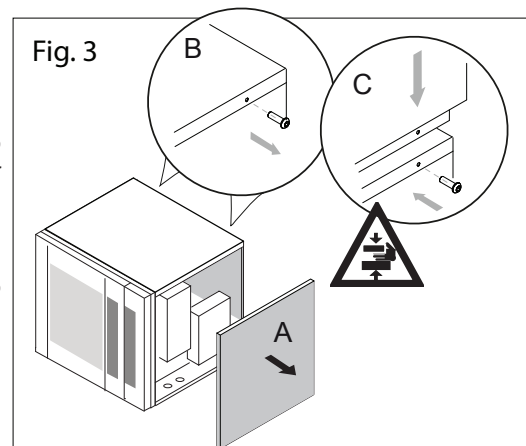

Fig. 3
Remove from the oven the lateral right panel and the two fixing screws of back side. (Fig. 3/A and 3/B).
1. Line up the fixing holes of the hoods with the fixing holes of the back side of the oven. Screw again to fix the hood to the oven (Fig. 3/C).